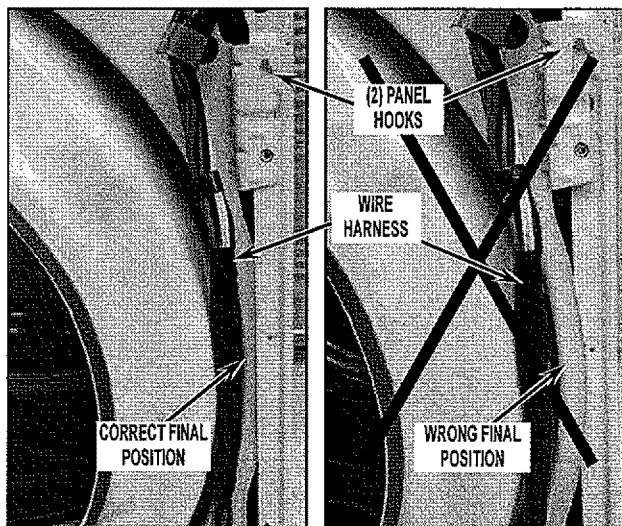

FIGURE 36
- Swing the front bulkhead to the dryer front and reattach the two (2) wire harness clips to the front of the front bulkhead. When re-hanging the front bulkhead to the dryer, make sure the wire harness is not getting pinched and the mid-section of the front bulkhead edge is behind the side panel edge. See Figure 36 as well as Figure 13.